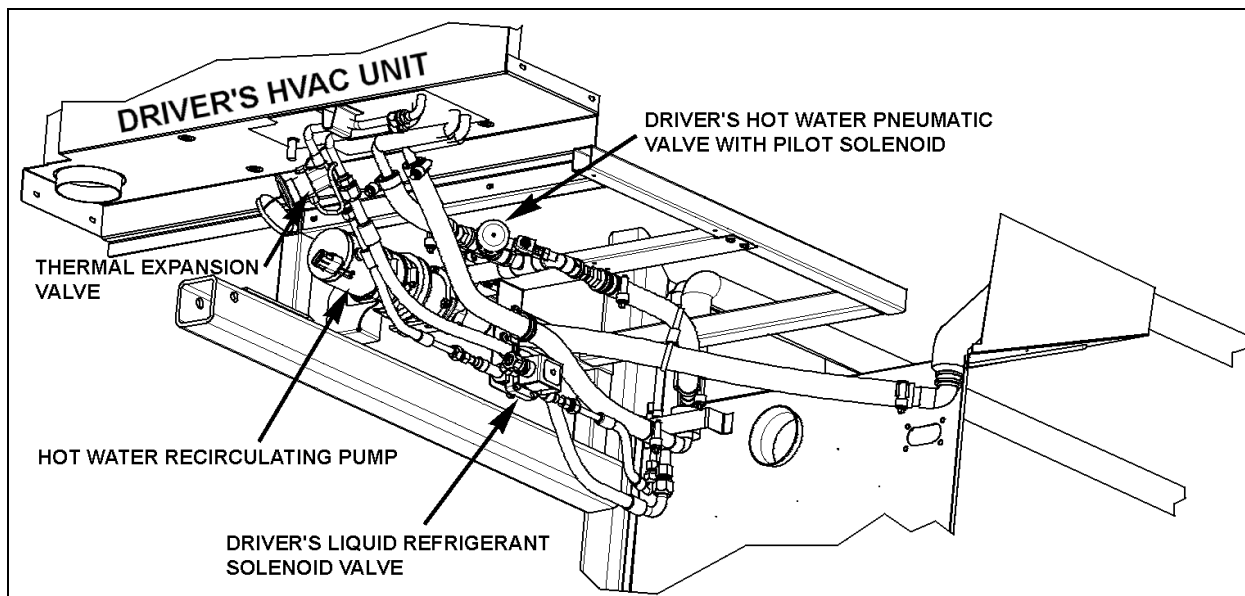

FIGURE 53: CEILING OF THE SPARE WHEEL COMPARTMENT
- b) Locate the normally open hot water pneumatic valve on the ceiling of the spare wheel compartment (Figure 53), move the pilot-solenoid valve red tab to close the valve.